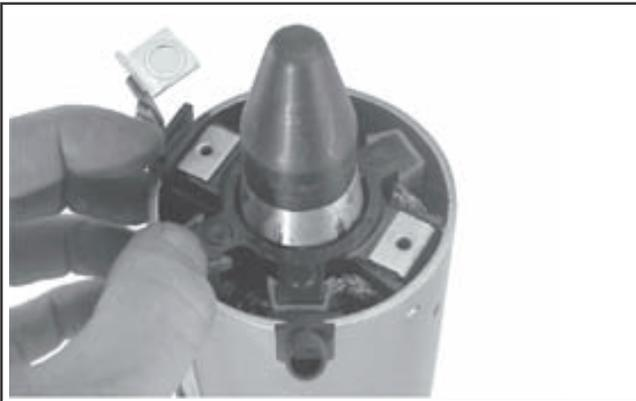

Figure 8-54. Installation Using Tool with Extension.
- d. Hold the starter assembly vertically on the end housing, and carefully place the tool (with extension) and assembled original brush holder assembly onto the end of the armature shaft. Slide the brush holder assembly down into place around the commutator, install the positive (+) brush lead grommet in the cutout of the frame. See Figure 8-54.